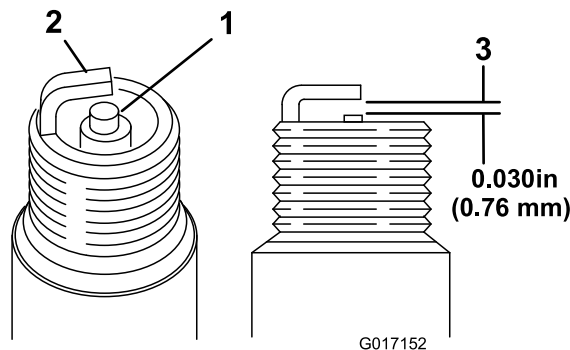

Figure 23
- Look at the center of the spark plug (Figure 23). If you see light brown or gray on the insulator, the engine is operating properly. A black coating on the insulator usually means that the air cleaner is dirty.
- Check the gap between the center and side electrodes (Figure 23). Bend the side electrode (Figure 23) if the gap is not correct.